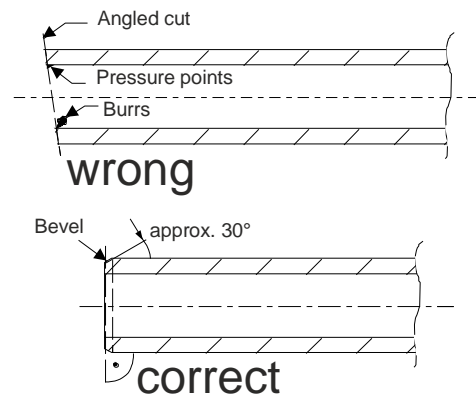

Fig. 35 Cutting the tubes
- The tubes must be cut to size using a pipe cutter. In doing so, ensure that the cut is at a right-angle to the tube axis. Remove any projecting burrs, Fig. 35.
- The ends of the individual tube pieces are to be bevelled slightly using a suitable tool, e.g. slightly bevel with a pipe scraper, Fig. 35.